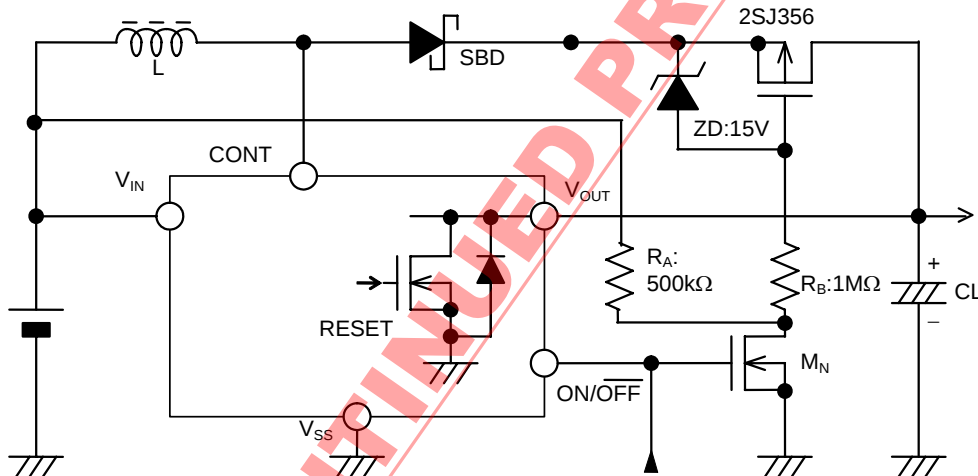

Figure 7 Circuit Example Using 2SJ356
Figure 7 shows a circuit example using the NEC 2SJ356 (Pch MOS FET) as a current cutting switch. This circuit example turns ON and OFF the 2SJ356 in connection with the reset signal to the power off pin using a small signal transistor M_N (Nch MOS FET). A Zener diode (ZD) is used for the purpose of clamping voltage so as not to apply high voltage (20V or more) of the rated voltage between the gate and the source of the 2SJ356. However, when the circuit is used at 20 V or below, a Zener diode is not needed. Invalid current flowing into resistors R_A , R_B during step-up operation may affect the efficiency. Set R_A , R_B to the maximum level. If you set the resistance of R_A to the high value, a drop in the voltage occurs in resistor R_A due to off current of M_N and the current cutting switch 2SJ356 does not normally function. Be careful (Note that the efficiency characteristics shown in the reference data were measured without attaching a current cutting switch and is different from that shown in this example).